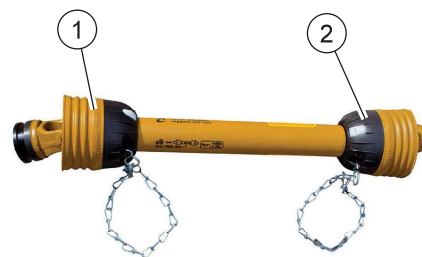

FIG. 18
- Guards on the PTO shaft tractor side (1, "Fig. 18") and machine side (2) including the restraining chains.